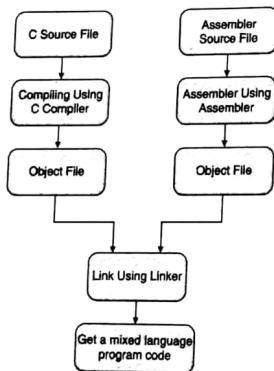

Fig. 11.13.2
- This process is shown in the flowchart in Fig. 11.13.2.
- Fig. 11.13.2 shows Compile, Assemble, and link processes using C compiler, Assembler and LINKER.